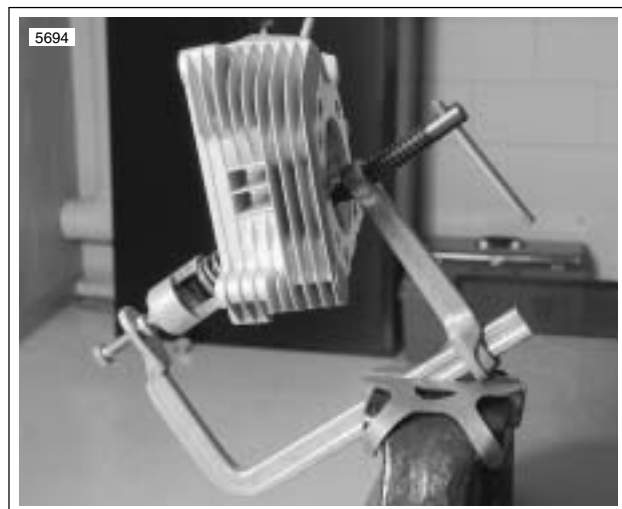

Figure 3-11. Valve Spring Compressor (Part No. HD-34736B)
1. See Figure 3-11. Compress valve springs with VALVE SPRING COMPRESSOR (Part No. HD-34736B).